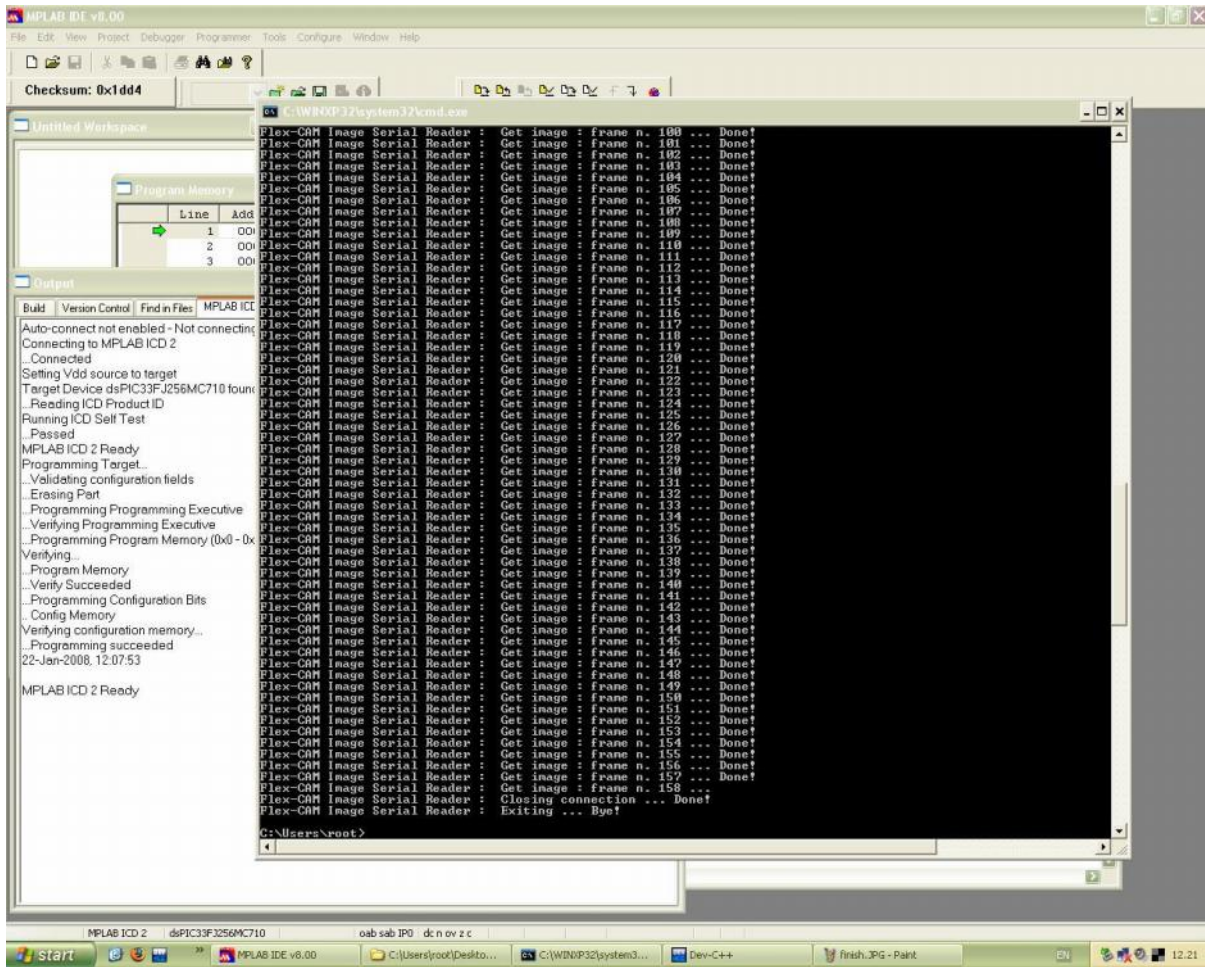

Figure 7 – Demo finish
- Use Ctrl-C to quit the demo (refer Figure 7 below)